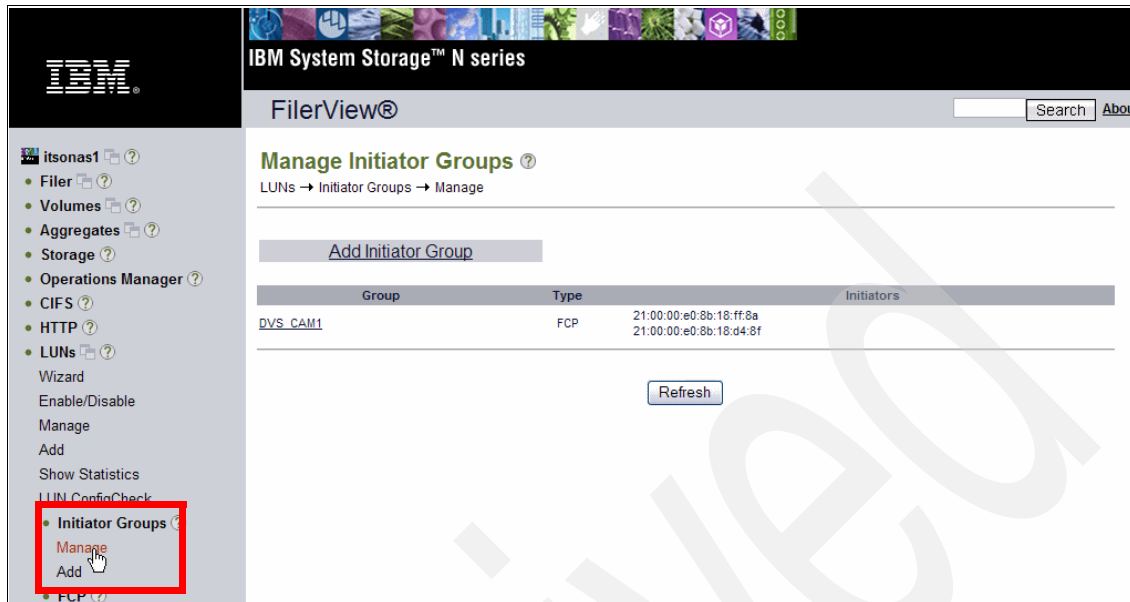

Figure 7-29 LUNs / Initiator Groups / Manage - Listing of initiator groups
3. Under LUNs, select **Initiator Groups** → **Manage**, as shown in Figure 7-29 on page 221, verify that the initiator group was created.